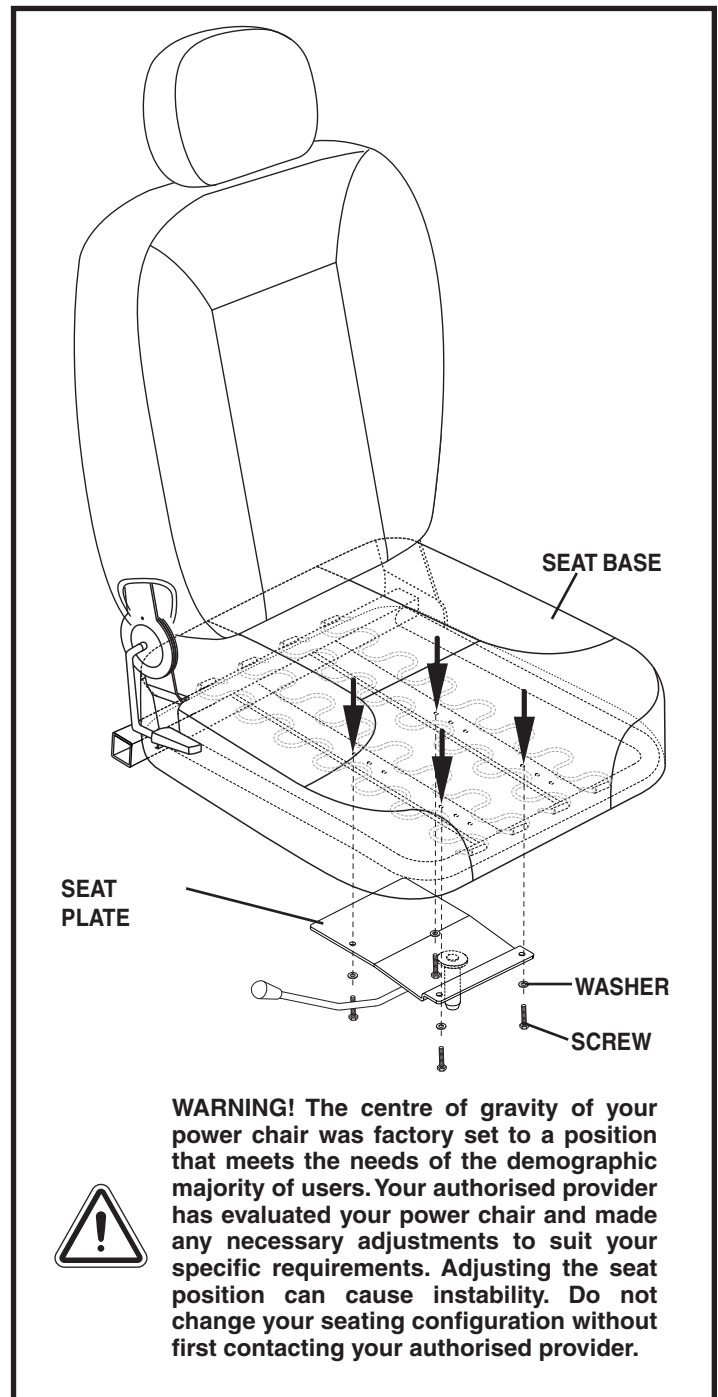

Figure 9. Seat Position Adjustment
5. Remove the screws and washers from the bottom of the seat plate. **See figure 9.**